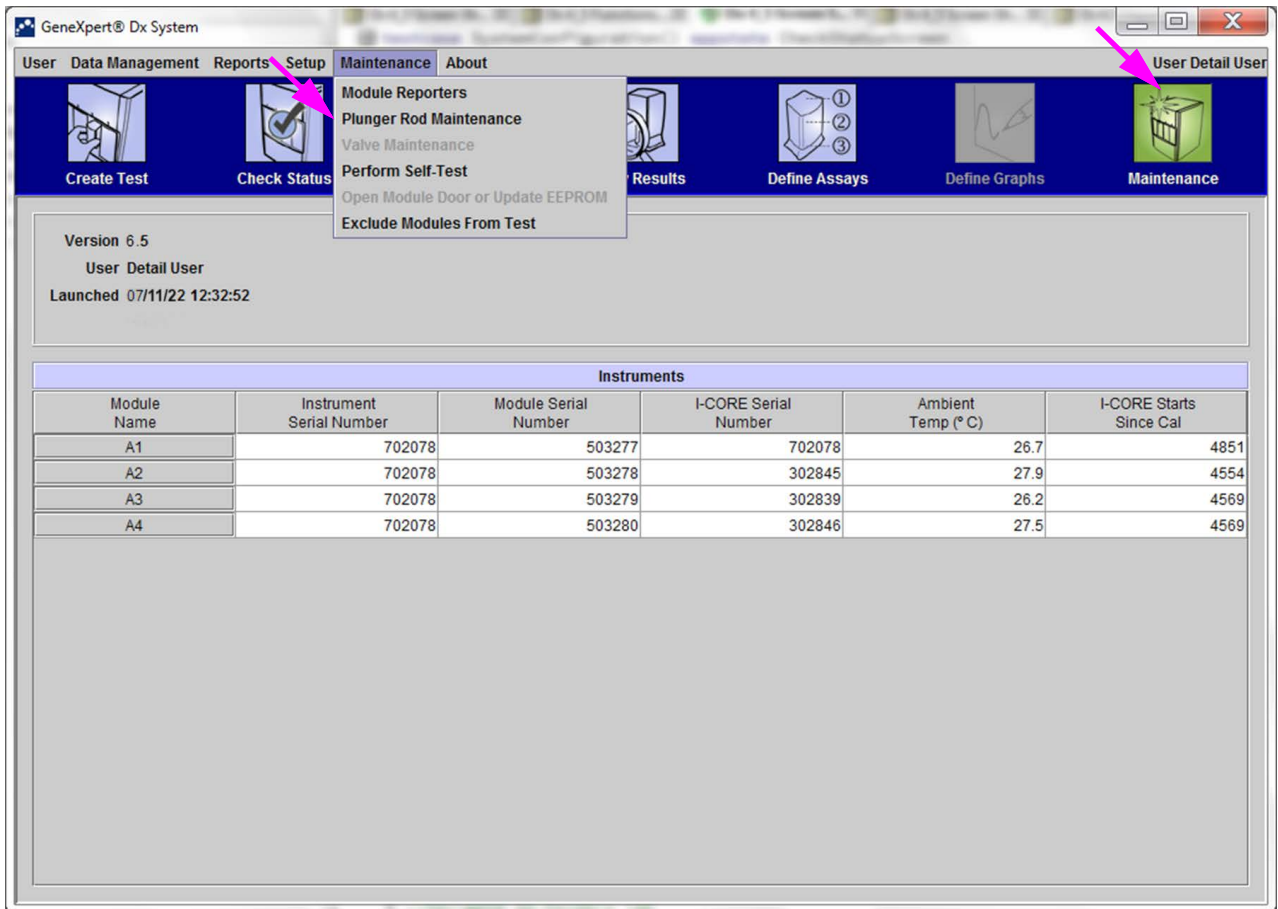
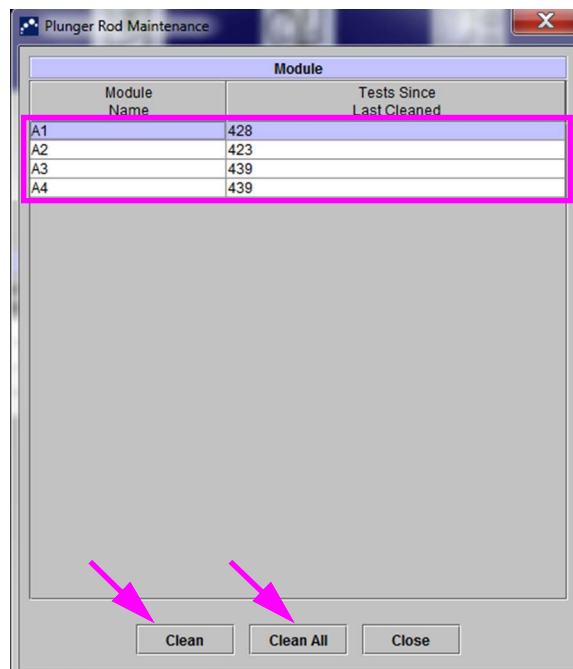
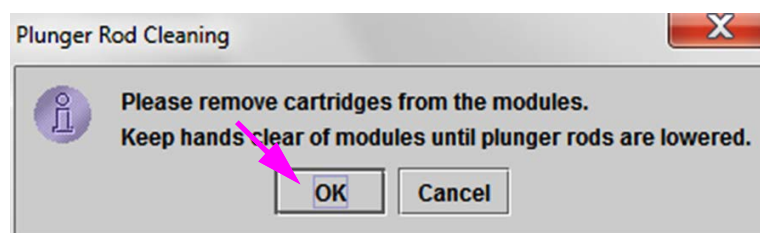

Figure 9-2. GeneXpert Dx System Window
Figure 9-3. The Plunger Rod Maintenance Dialog Box
Figure 9-4. Plunger Rod Cleaning Dialog Box
2. In the GeneXpert Dx System window, click the **Maintenance** icon (see Figure 9-2). The **Maintenance** screen is displayed.
3. Click on **Maintenance** on the Menu Bar (see Figure 9-2), select **Plunger Rod Maintenance**. The **Plunger Rod Maintenance** dialog box is displayed. See Figure 9-3.
- In the **Module** table, select the module(s) to be cleaned and then select **Clean** or **Clean All** (see Figure 9-3). The Plunger Rod Cleaning dialog box is displayed (see Figure 9-4).